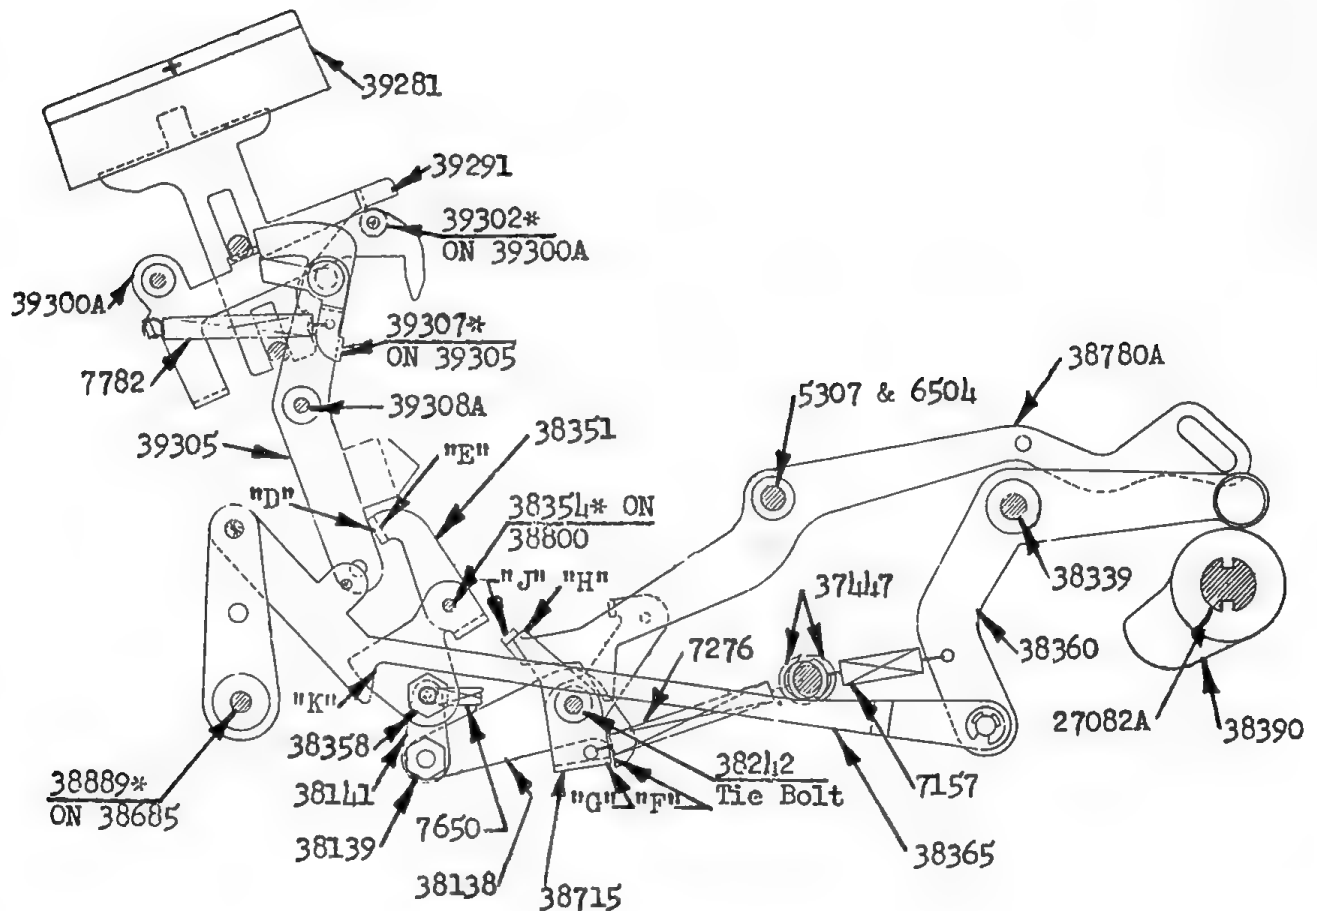

FIG. 22
depressed, is prevented by the Add Operating Live Point-39307* on 39305. As Lever-39305 moves counter-clockwise, (Fig. 22), its surface "D" contacts ear "E" on the Add Restore Bail-38351 and rocks it clockwise. Bail-38351 rocks the Add Starting Arm-38138 through Link-38141 and an adjustment screw 38139, which causes the surface "F" on 38138 to contact surface "G" on the Setting Clutch Opening Bail-38715, rocking 38715 clockwise, thus moving surface "H" on Bail-38715 away from under ear "J" on the Starting Control Lever-38780A and allowing 38780A to engage the ratchet for an active cycle, opening the setting clutch. (See also Section II, which will be forwarded to you at a later date).
1. (Fig. 22). On the restore phase of the setting cycle, the Add Restore Cam-38390 rocks the Add Restore Bellcrank-38360 counter-clockwise, thereby moving the Add Restore Link-38365